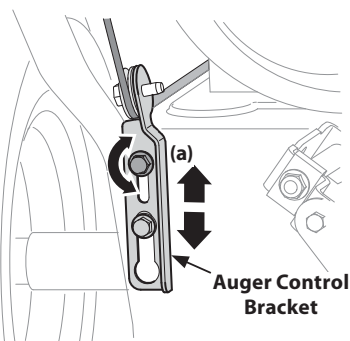
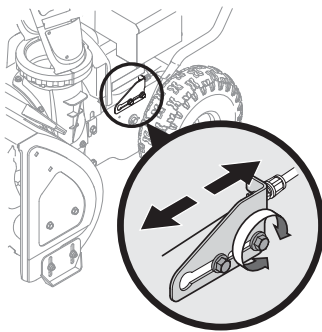

Figure 2-54
Figure 2-55
- Allow auger to remain engaged for approximately ten (10) seconds before releasing auger control lever. Repeat this several times.
- To readjust the auger control cable, loosen upper hex screw (a) on all on unit except the E-Z Chute™ unit. auger control bracket. See Figure 2-54.
- On E-Z Chute™ models, loosen the rear hex screw on the auger control bracket. See Figure 2-55.
- Position bracket upward on all units except the E-Z Chute™, push the adjustment bracket forward on those units to provide more slack (or downward/rearward to increase cable tension). See Figure 2-54 or Figure 2-55 depending on your unit.